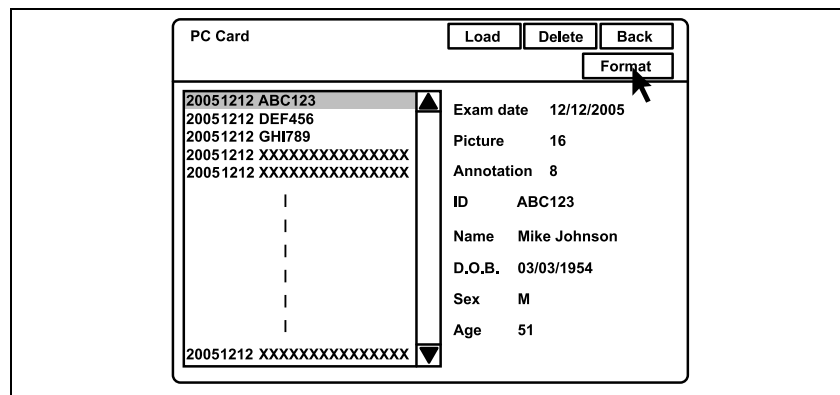

Figure 5.63
2. Click “Format” (see Figure 5.63). A confirmation message is displayed to ask if the card can be formatted.